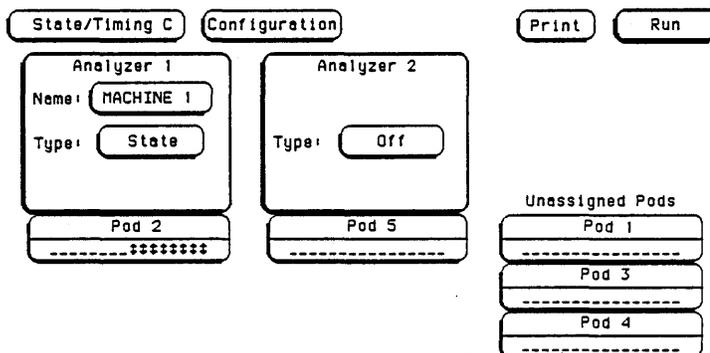

Figure 3-17. Configuration Screen
3. Assign the pod under test to Analyzer 1 in the Configuration screen as in figure 3-17. Refer to steps a and b if unfamiliar with menus.